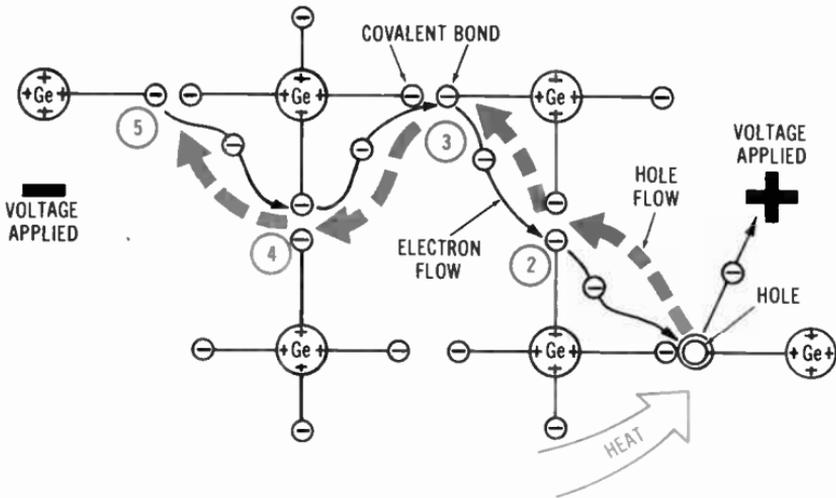

Fig. 3-6. Hole flow in intrinsic germanium.
Examine Fig. 3-6. For each of the four electrons in the outer ring of each atom, there is a corresponding proton in the nucleus. When heat is applied (1), an electron is liberated and starts drifting toward the positive voltage. The electron leaves a hole which may be considered to be positive. This hole attracts an electron from the next covalent bond (2), thus leav-